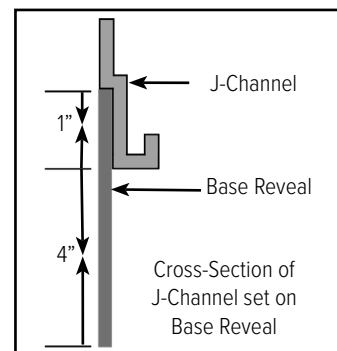

Figure 3.1.2
3.1.2 The J-Channel overlaps the base reveal by 1" as shown in Figure 3.1.2.